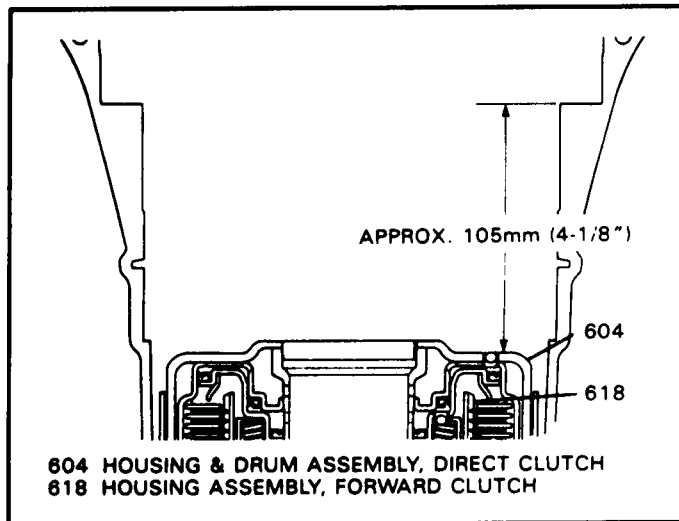

Figure 99
44. Direct clutch housing will be approximately 4 -1/8" from the pump face surface of the case when fully seated, as shown in Figure 99.